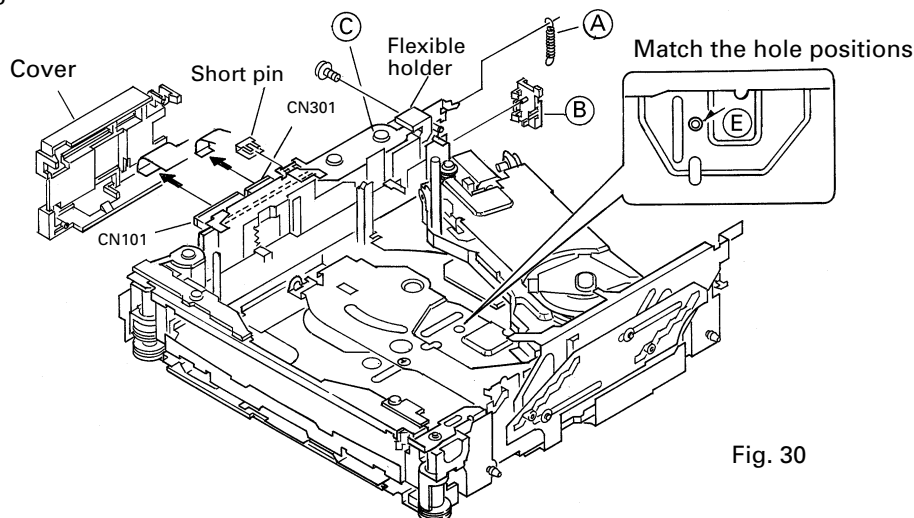

Fig. 30
5. Rotate the Cam gear motor until the positions of all holes (E) match, then stop the motor. (The Carriage Mech assy will stop as shown in the Fig. 30)
8. Remove the flexible PCB (C) from the motor. (The flexible PCB (C) has been stuck on the motor with double-sided adhesive tape.)
1. Insert a short pin into the Pickup flexible PCB. (See Fig. 30)
Remove the Cover from the Servo unit. (See Fig. 30)
Disconnect the flexible PCBs from the connectors CN101 and CN301. (See Fig. 30)
1. Insert a short pin into the flexible PCB of the Pickup unit.(See Fig. 30)
- Remove the Carriage mech assy. (See Fig. 30 and 31)